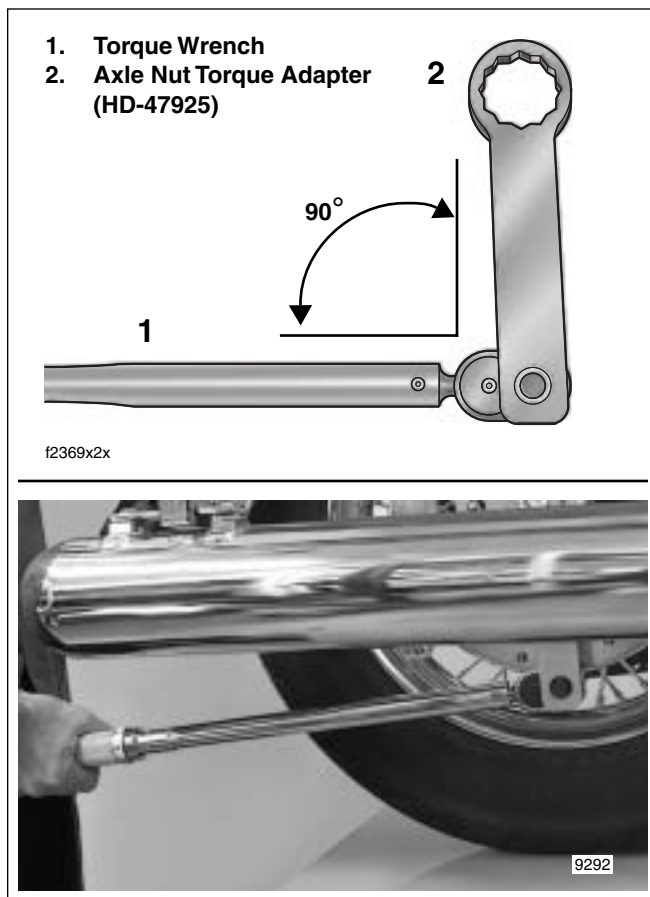

Figure 2-102. Install Tool Perpendicular to Torque Wrench
- a. Install torque adapter perpendicular to torque wrench as shown in Figure 2-102.